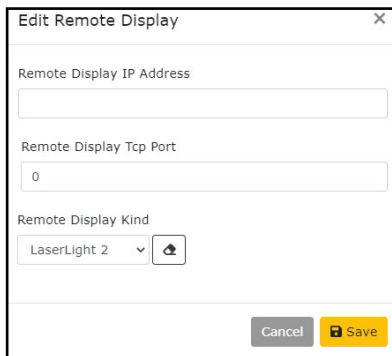

Figure 6-12. Edit Remote Display Window
- Select **Save** (see Figure 6-12 on page 74).